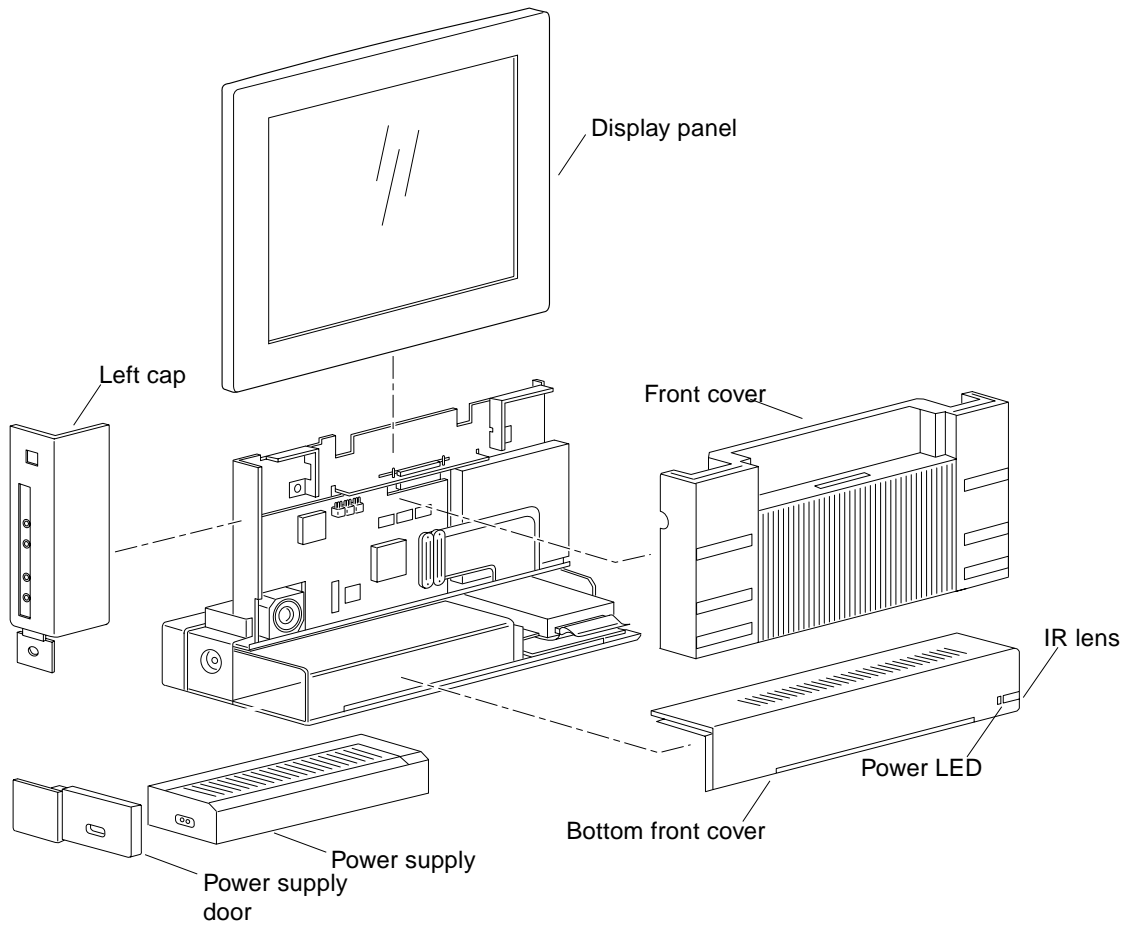

FIGURE 1-1 Front View—Exploded
- FIGURE 1-1 shows the front view of the unit